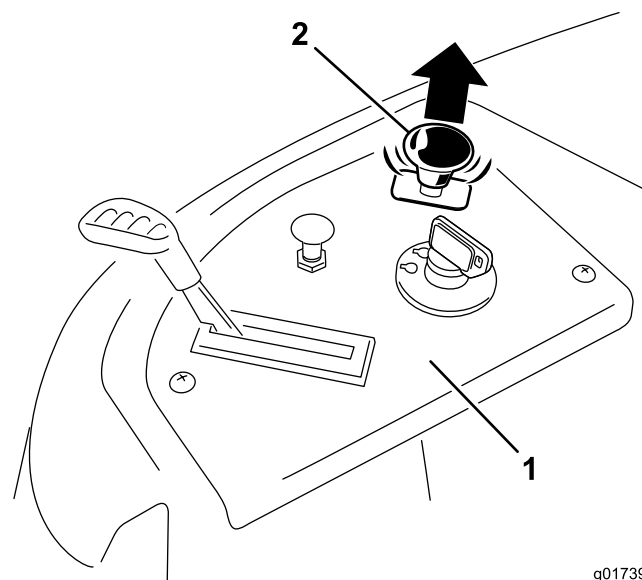

Figure 14
3. Pull up on the blade-control switch to move it to the On position, and engage the blades (Figure 14).